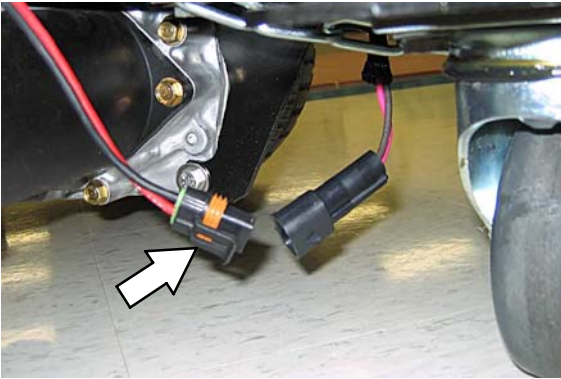

FIG. 10
4. Unplug the transaxle wire harness connector to keep machine stationary while testing (Fig. 10).